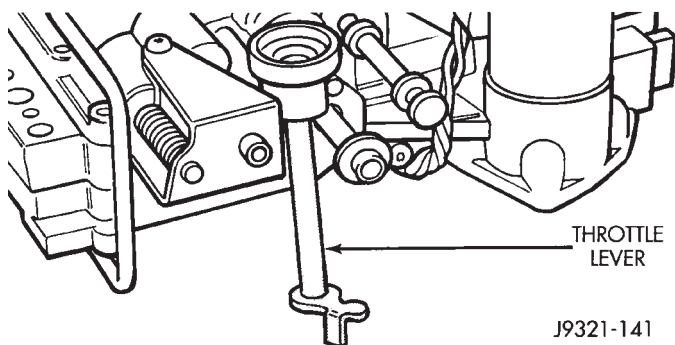

Fig. 96 Throttle Lever Removal—46RH
- (8) Remove throttle lever from valve body housing (Fig. 96).